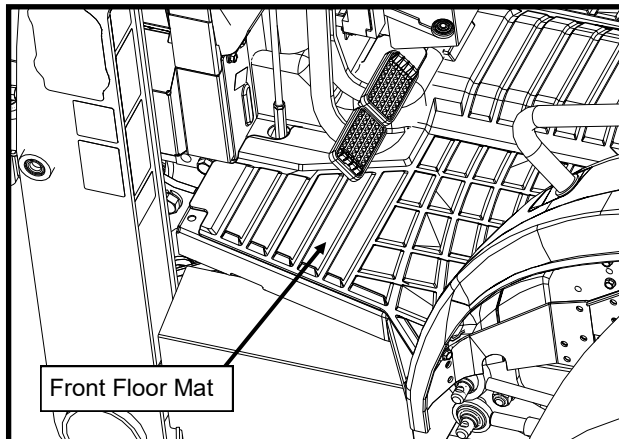

Figure 1.4: Remove the Front Floor Mat
- 1.4 Remove and retain the front floor mat (see Figure 1.4). Upon reinstallation at a later step, the floor mat will need to be trimmed to fit around the cowl and several alignment knobs will need to be removed.